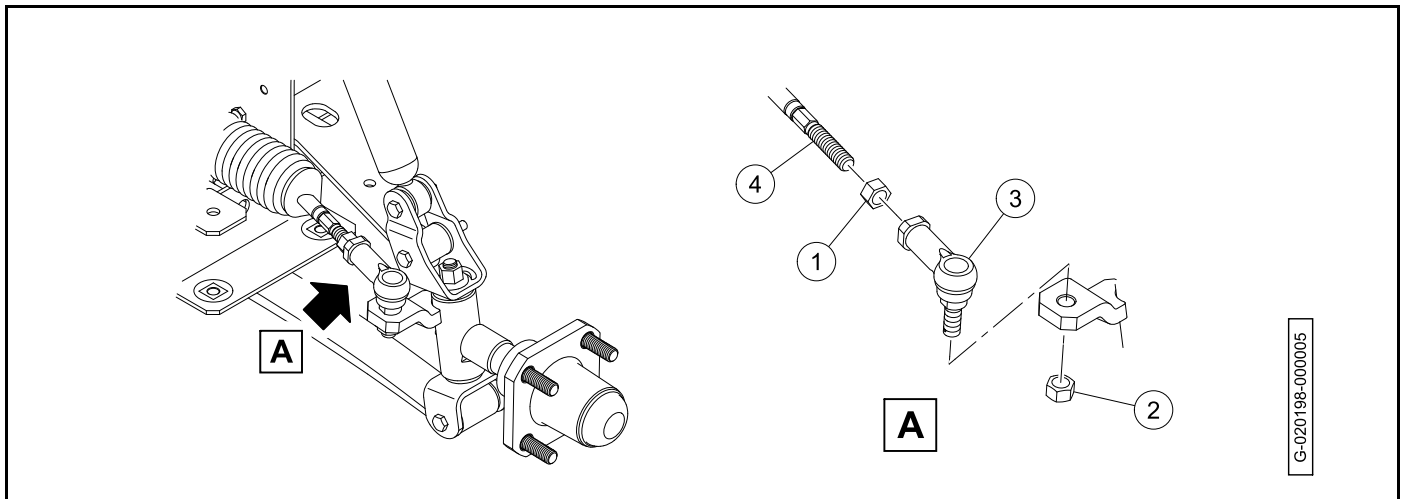

Figure 7-12
3. Loosen the jam nut (1) (Figure 7-12).